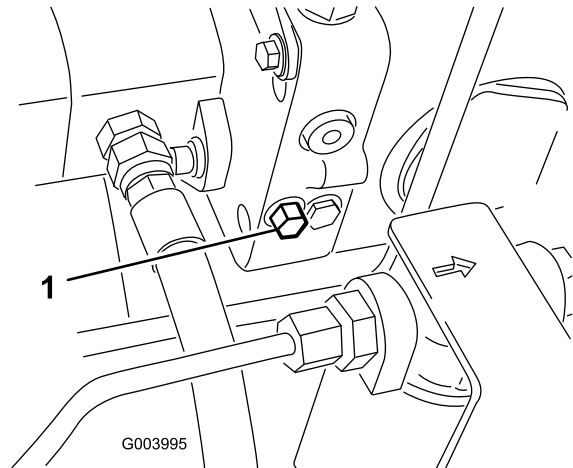

Figure 39
1. The bypass valve is located on the left side of the hydrostat (Figure 39). Rotate the bolt 1-1/2 turns to open and allow oil to bypass internally.